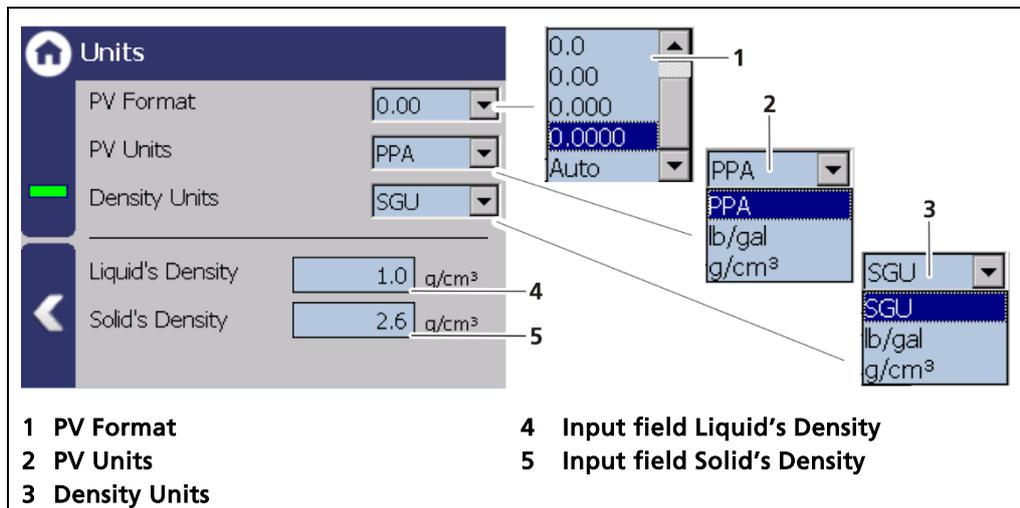

Fig. 54 Menu "Units"
When selecting the unit PPA, the value for respective density g/cm^3 must be entered in the input fields Liquid's Density (Fig. 54, item 4) and Solid's Density (Fig. 54, item 5).